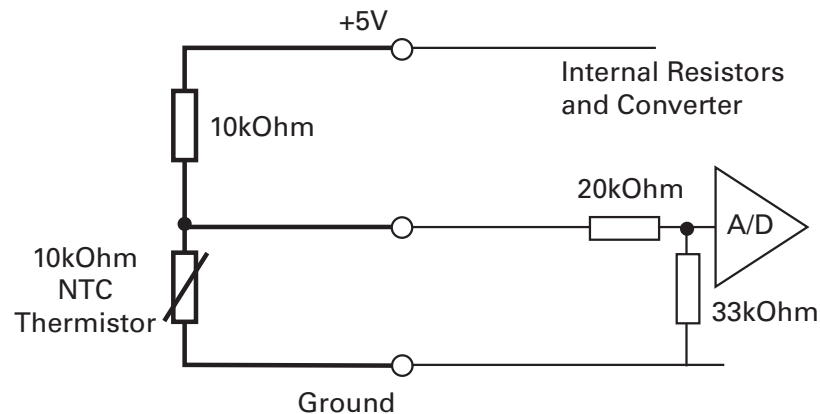

FIGURE 3-11. NTC Thermistor wiring diagram
- Connect the sensor with a pull-up resistor (value 10KOhm) to the 5Volt supply, as shown in FIGURE 3-11.